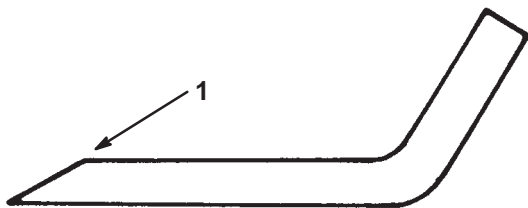

Figure 28
1. Use a file to sharpen the cutting edge at both ends of the blade (Fig. 28). Maintain the original angle. The blade retains its balance if the same amount of material is removed from both cutting edges.